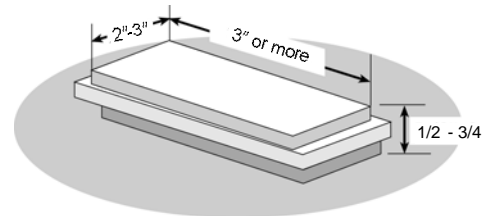

Figure 1
- A. Locate two Wood Blocks whose dimensions will raise the Wardrobe Door (#1) 1/2 - 3/4 off the floor surface or carpet (See Figure 1). It will also be helpful to have on hand a few thin wood strips or “Shims” in case you need to adjust the height and alignment of the Wardrobe Door (#1) as you go.